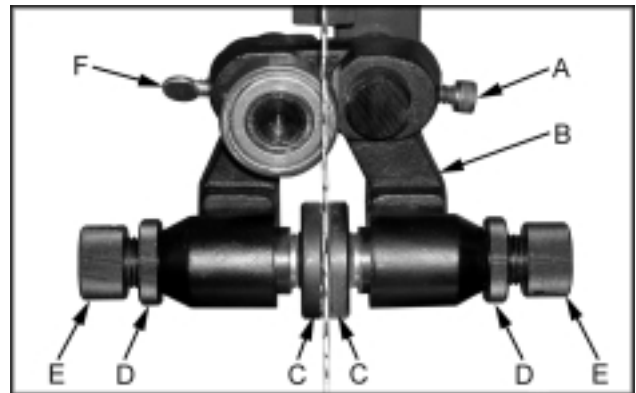

Fig. 3
2. The blade guard has been removed in Figure 3 for photo purposes only.
3. Loosen the socket head cap screw (A, Fig. 3) and position the blade guide assembly (B, Fig. 3) so that the guides rest just behind the gullet of the blade teeth. Tighten the socket head cap screw.
4. Loosen lock nuts (D, Fig. 3).
5. Adjust guide knobs (E, Fig. 3) so guides (C, Fig. 3) rest lightly against the blade. **Do not** force the guides against the side of the blade. Tighten both lock nuts.
6. Adjust the blade support bearing so that it is 0.003" away from the back of the blade, about the thickness of a piece of paper. To make this adjustment loosen thumb screw (F, Fig. 3) and slide the bearing and bearing post into position. Tighten thumb screw.
Note: Blade support bearing should be adjusted so that the back edge of the blade overlaps the front face of the ball bearing by approximately 1/8". If adjustment is needed, loosen thumb screw (F, Fig. 3) and turn the bearing shaft. Tighten thumb screw.